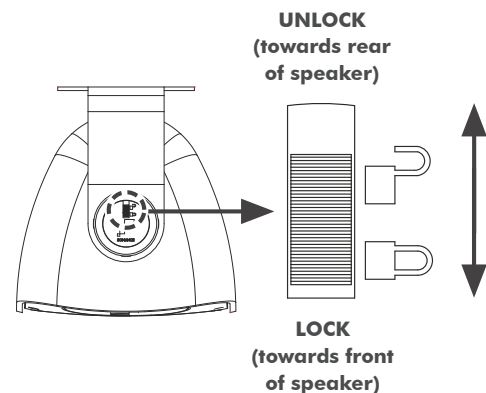

FIGURE 4:
1. Unlock the slide locks on the speaker pivots by moving them towards the rear of the speaker (see figure 4).